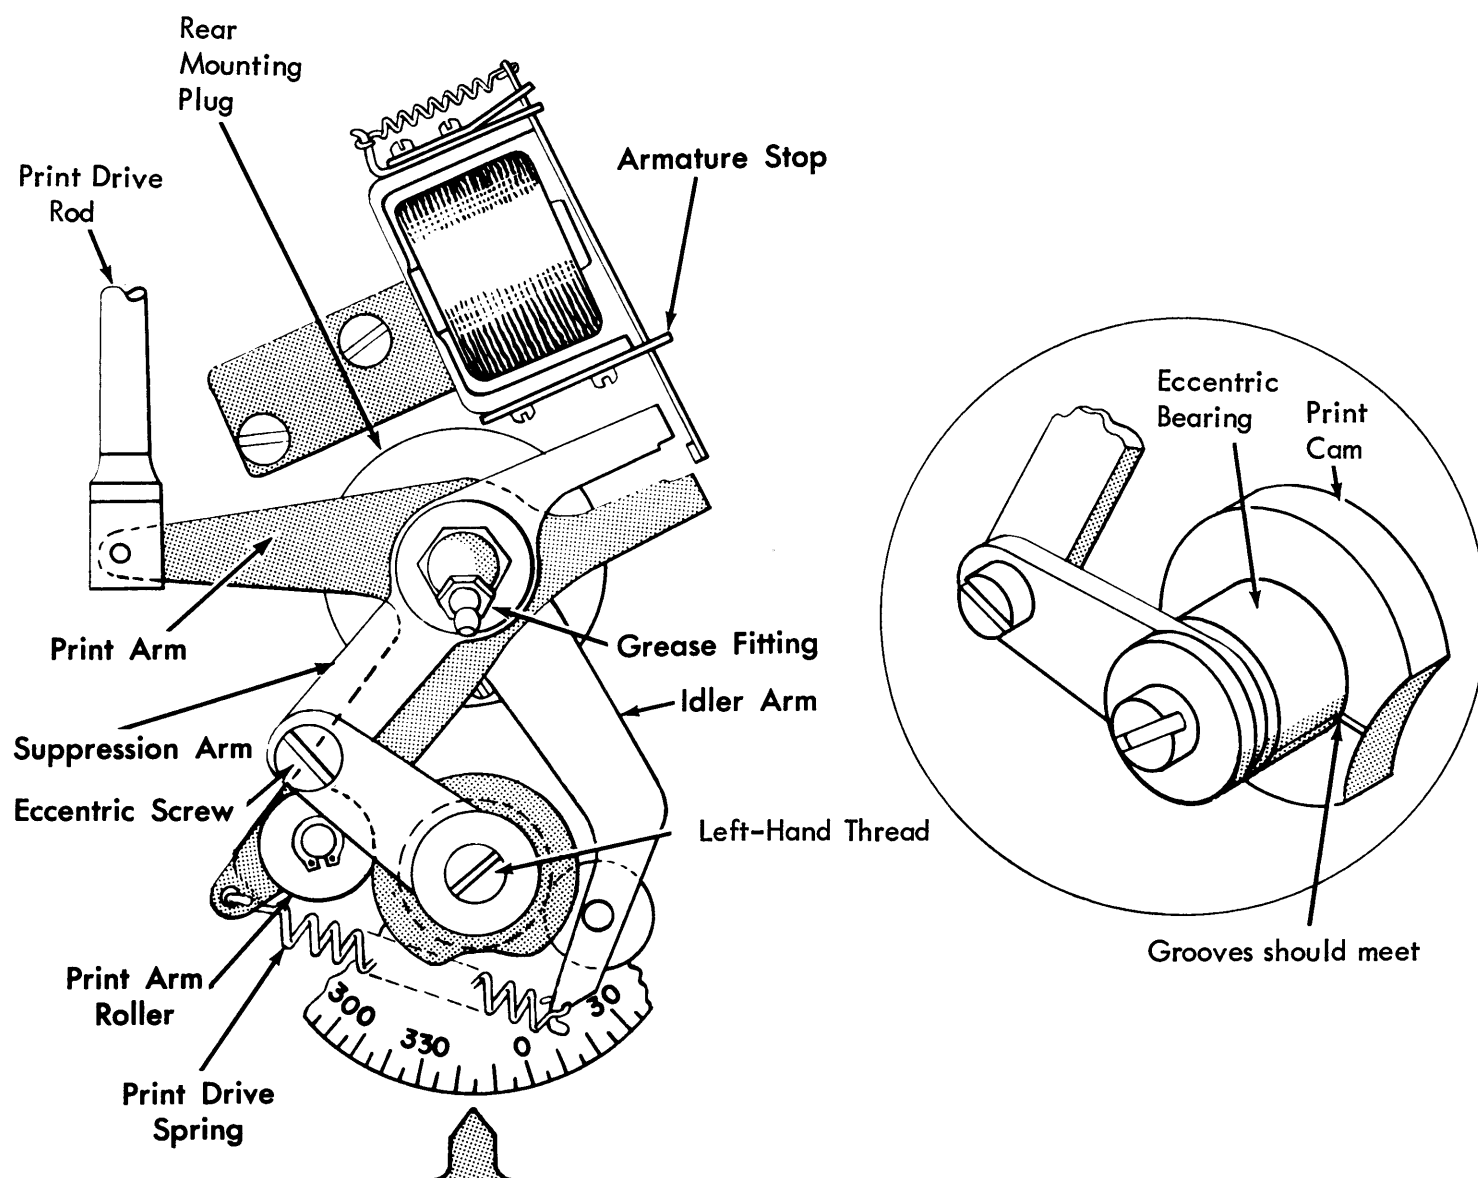

Figure 4-22. Print Drive Unit Cam Timing
2. Unhook print drive spring (Figure 4-22) and trip punch clutch armature to prevent damage to it. Hold index and remove screw with left-hand threads from end of punch shaft. Unscrew grease fitting from mounting plug.
3. Loosen knurled thumb screw or remove slotted clip on vertical drive rod to relieve tension and remove vertical drive rod guide plate. Disengage the print rod from the print arm (Figure 4-22) by applying slight pressure on drive rod at lower end.
Before reinstalling drive unit, manually push punch extensions in as far as possible. Reverse procedure to install punch unit. Align groove in eccentric bearing to mark on print cam (Figure 4-22). Check printing.